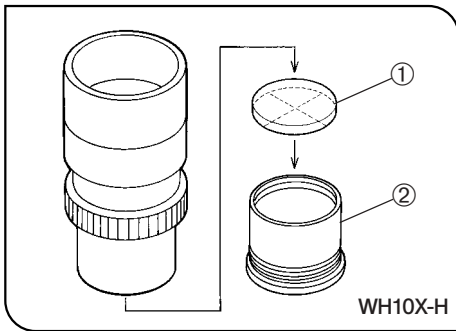

Fig. 11
4 Using the Eyepiece Micrometer Disk (Figs. 11 & 12)
Following Fig. 11, unscrew the micrometer-mounting frame ② from the eyepiece and place a micrometer disk ① into the mounting frame. The engraving on the eyepiece micrometer disk should face downward in the micrometer-mounting frame.